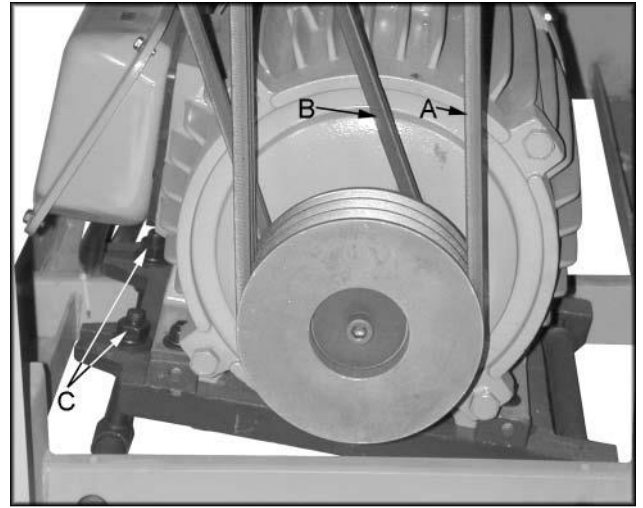

Figure 21
Three V-belts A, Figure 21) drive the cutterhead. The single V-belt (B, Figure 21) drives the in-feed and out-feed rollers. Belt tension has been set at the factory. If the belts have stretched and need adjustment.
2. Open lower rear, and lower left-hand side panels. Loosen and tighten four adjustment nuts (C, Figure 21) to move motor plate up, or down to increase, or decrease belt tension. Tighten nuts against motor plate after adjustment is made.